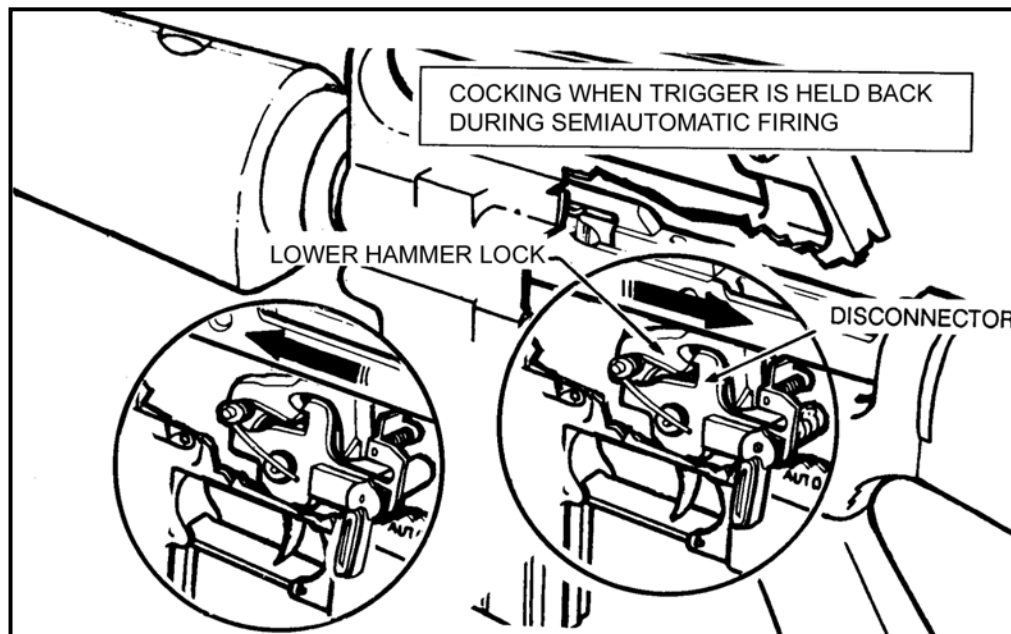

Figure 4-10. Cocking.
h. **Cocking** (Figure 4-10). The rearward movement of the bolt carrier overrides the hammer, forcing it down into the receiver and compressing the hammer spring, cocking the hammer in the firing position. The action of the rifle is much faster than human reaction; therefore, the firer cannot release the trigger fast enough to prevent multiple firing.